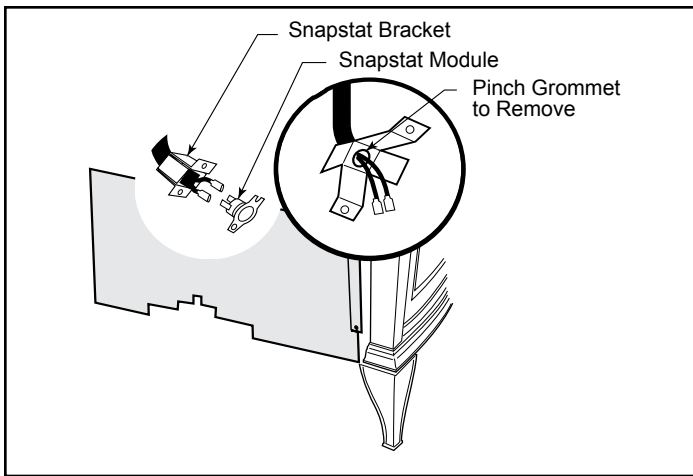

Figure 69 - Remove the snapstat and grommet from the bracket.
2. Connect snapstat leads. Disconnect the snapstat module from the leads inside the snapstat bracket. (Figure 69) Bend open the snapstat bracket. Use needle nose pliers to remove the black plastic grommet from the bracket. Discard the bracket. Connect the two wires to the two snapstat extension leads provided with the parts bag (wires with the sleeve).